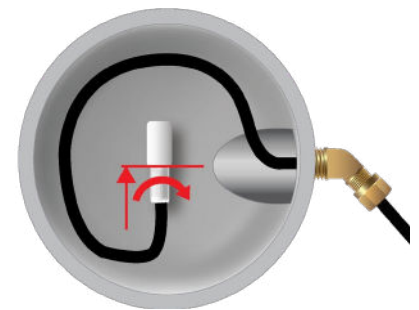

Figure 3.4.4a Fiber Connected into Optic Transmitter in Bar
4. Tighten the compression nut securely. (See Figure 3.4.4a)
7. Tighten the compression fitting. (See Figure 3.4.4a)